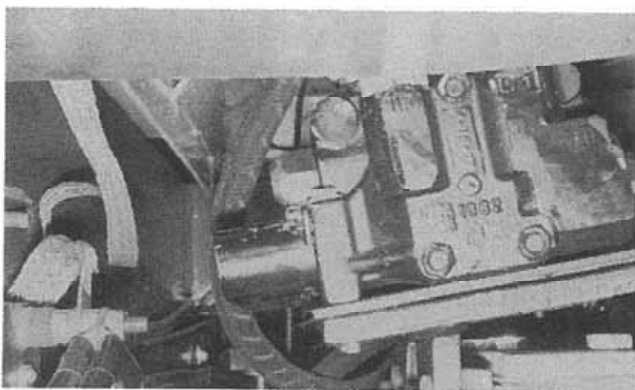

Figure 7:
7. With the transfer case housing and bracket holes aligned, start several cap screws on each side of unit to support it, and mount the hydraulic control valve bracket at the same time (Fig. 7).